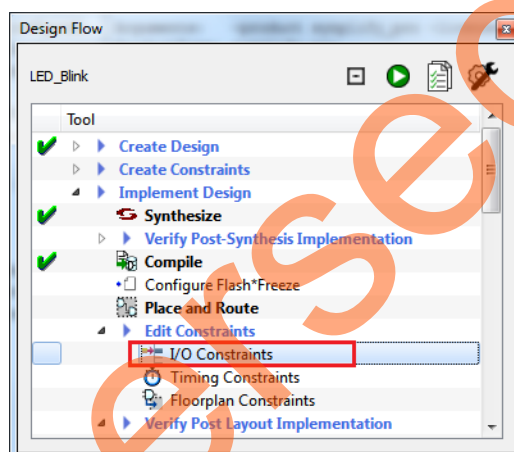

Figure 15 • I/O Constraints
1. Double-click **I/O Constraints** in the **Design Flow** window, as shown in Figure 15. The **I/O Editor** window is displayed after completing Synthesize and Compile.